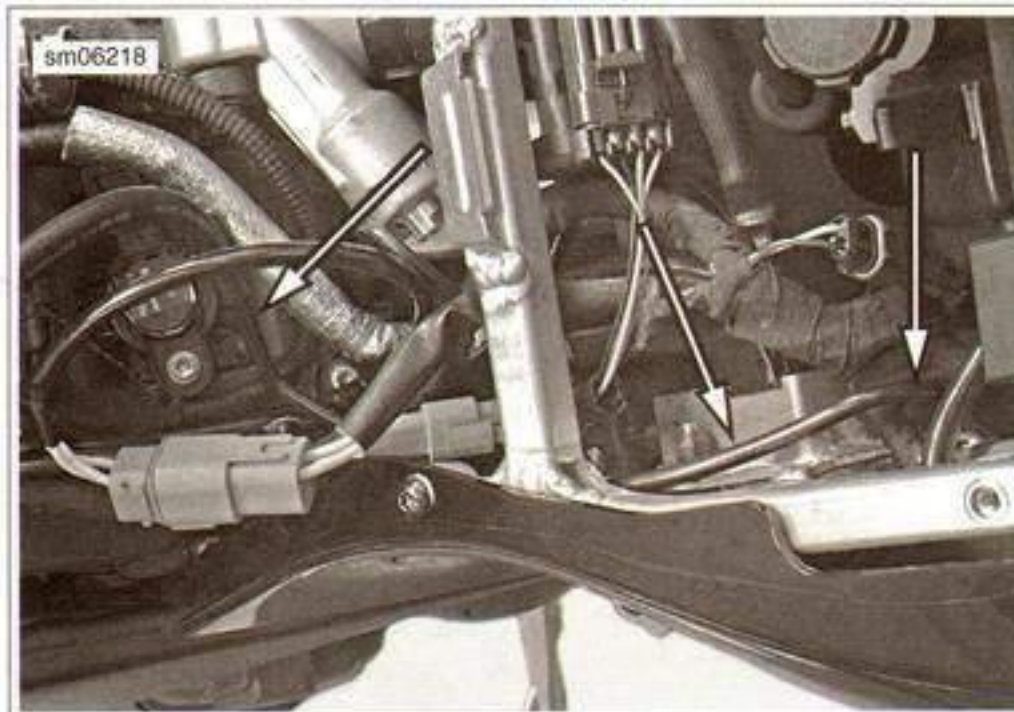

Figure 4-58. Hard Line Through Subframe
4. See Figure 4-58. Route the hard hose through the sub-frame.